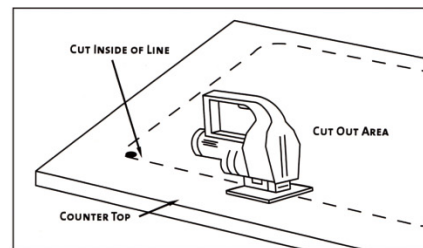

FIGURE 2
4. Trace the line of the template and cut countertop according to templated size, using appropriate cutting tools. Template is for guide only. Use physical sink to ensure accurate cutout opening. (FIGURE 2)